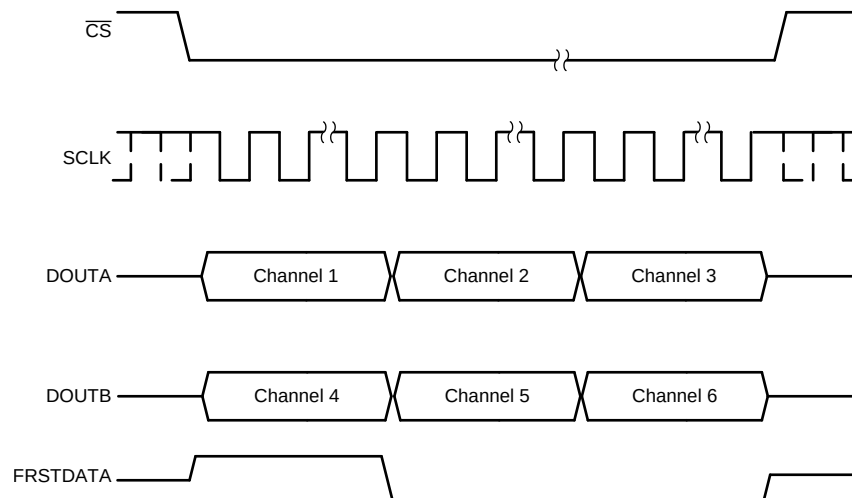

Figure 70. Data Read Back in the Serial Interface Using Both DOUTA and DOUTB Timing Diagram
- In order to minimize the time for the data read operation in serial mode, both DOUTA and DOUTB can be used to read data out of the device. In this case, the conversion results from the first set of channels (channels 1-3 for the ADS8586S) appear on DOUTA and the conversion results from the second set of channels (channels 4-6 for the ADS8586S) appear first on DOUTB. To read the data for all channels, provide a total of $16 \times 3 = 48$ SCLK cycles for the ADS8586S. This entire data frame can be created within a single $\overline{CS}$ pulse or each group of 16 SCLK cycles can be individually framed by the $\overline{CS}$ signal. Figure 70 shows an example timing diagram.